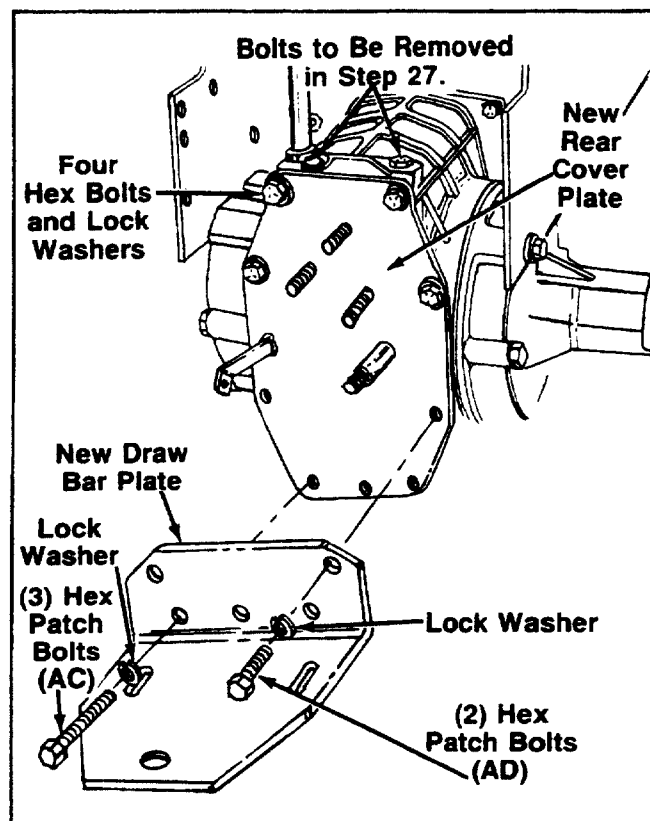

FIGURE 12.
23. Install new rear cover plate assembly (Ref. 20) and rear cover plate gasket (Ref. 21), to the transmission housing using the four bolts and lock washers removed in step 22. See figure 12.
24. Install new draw bar plate (Ref. 8) to rear cover using the five lock washers from step 21, two hex patch bolts (Ref. AD) and three longer hex patch bolts (Ref. AC). See figure 12.
27. Remove two bolts from the top of the transmission case as shown in figure 12.